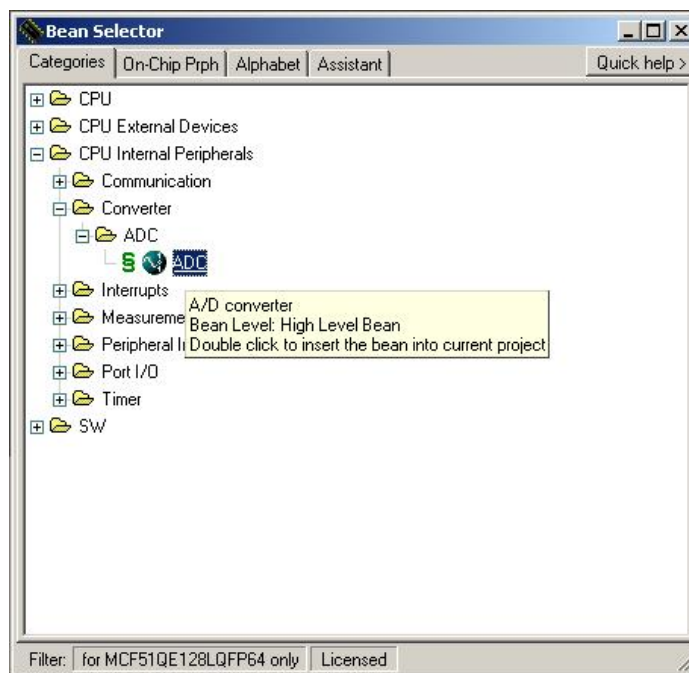

Figure 26. Bean Selector Window - ADC Bean
2. Go to menu Processor Expert > View > Bean Selector in Code Warrior and add the ADC bean (Figure 26).